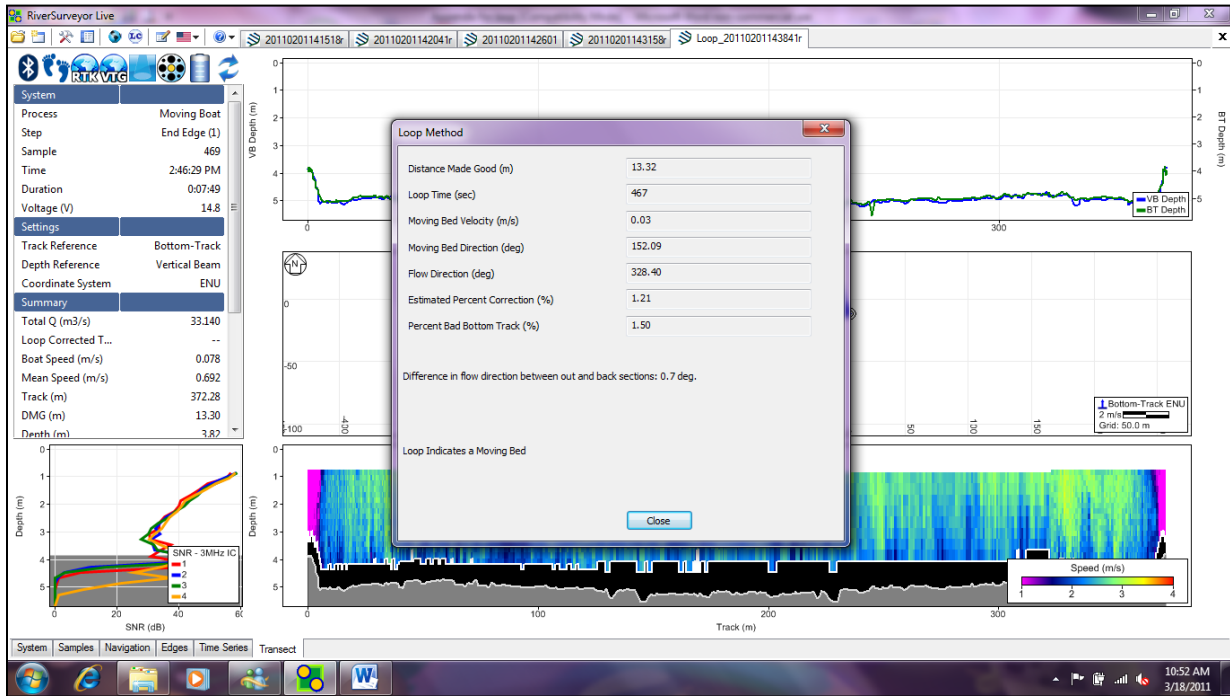

Figure 183. Loop Method Results
4. The Loop Method results will be processed and displayed as shown in Figure 183. Click **Close** after the results are reviewed.